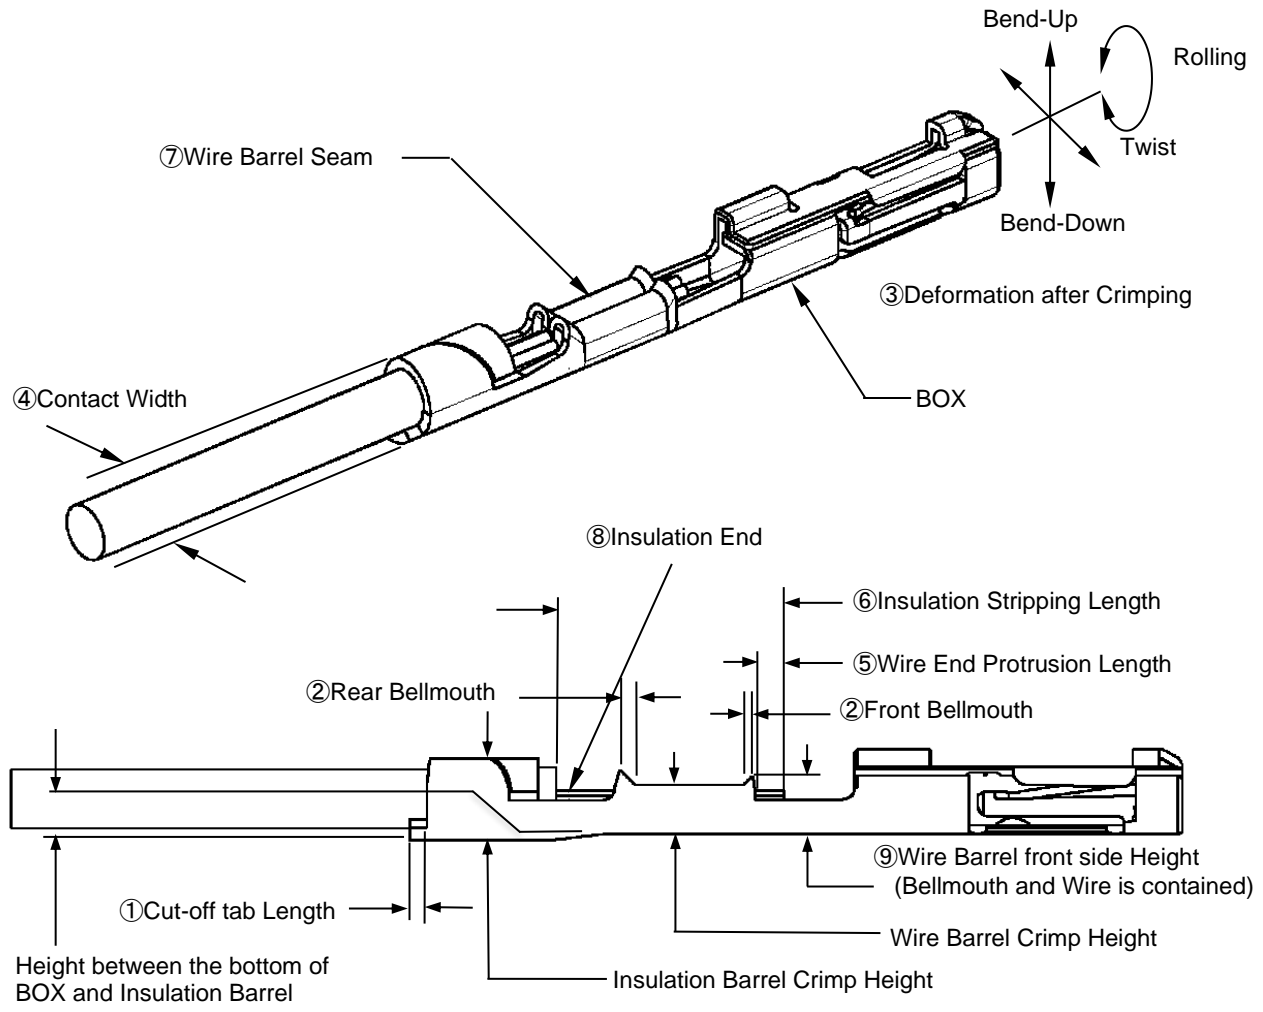

Fig. 1
| 1 | Cut-off Tab Length | | 0 ~ 0.4 mm | | | | Fig.1-① |
| 2 | Bellmouth | Front | 0.1 ~ 0.3 mm | 0.2 mm Max. | 0.1 ~ 0.3 mm | 0.1 ~ 0.3 mm | Fig.1-② |
| 3 | Deformation after Crimping | Bend | ±3° Max. | | | | Fig.1-③ |
| 4 | Contact Width after Crimping | | 1.2 mm Max. | 1.5 mm Max. | | 1.2 mm Max. | Fig.1-④ |
| 5 | Wire End Protrusion Length | | 0 ~ 0.5 mm | | | | Fig.1-⑤ |
| 6 | Insulation Stripping Length | | 3.0 ~ 3.5 mm | | | | Fig.1-⑥ |
| 7 | Wire Barrel Seam | | Seam must be closed (No strand looses out of the seam) | | | | Fig.1-⑦ |
| 8 | Insulation End | | Insulation End must be between Wire Barrel and Insulation Barrel | | | | Fig.1-⑧ |
| 9 | Wire Barrel front side Height (Bellmouth and Wire is contained) | | 1.0 mm Max. | | | | Fig.1-⑨ |
| 1 | Cut-off Tab Length | | 0 ~ 0.4 mm Fig.1-① |
| 2 | Bellmouth | Front | 0.2 mm Max. Fig.1-② |
| 3 | Deformation after Crimping | Bend | ±3° Max. Fig.1-③ |
| 4 | Contact Width after Crimping | | 1.2 mm Max. Fig.1-④ |
| 5 | Wire End Protrusion Length | | 0 ~ 0.5 mm Fig.1-⑤ |
| 6 | Insulation Stripping Length | | 3.0 ~ 3.5 mm Fig.1-⑥ |
| 7 | Wire Barrel Seam | | Seam must be closed (No strand looses out of the seam) Fig.1-⑦ |
| 8 | Insulation End | | Insulation End must be between Wire Barrel and Insulation Barrel Fig.1-⑧ |
| 9 | Wire Barrel front side Height (Bellmouth and Wire is contained) | | 1.0 mm Max. Fig.1-⑨ |